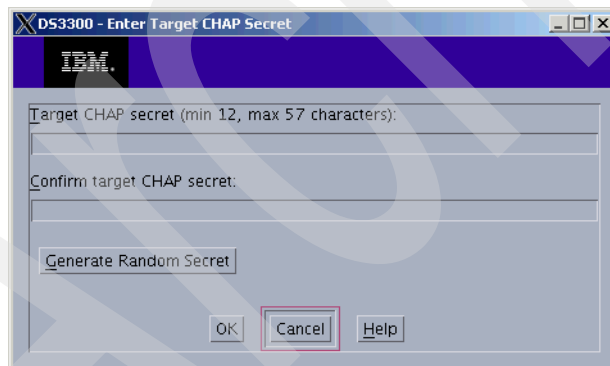

Figure 13-3 DS3000 Storage Manager - Target CHAP secret
4. Figure 13-3 shows the Enter Target CHAP secret dialog. Enter a CHAP secret that is at least 12 characters long. Repeat the text to confirm.